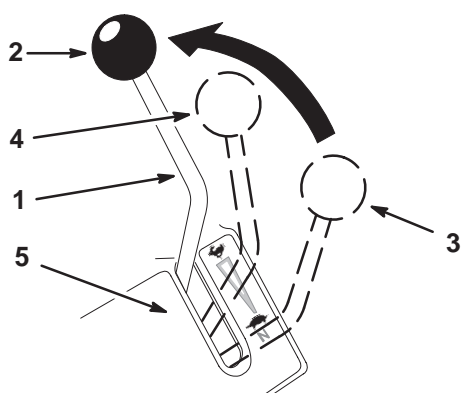

Figure 40
2. Move the speed control lever to the full forward position (Fig. 40).
2. Move the speed control lever to the neutral position (Fig. 40).
4. Place the left neutral lock in the full forward position (Fig. 50) and move the speed control lever to the neutral position (Fig. 40).
1. With the machine on jack stands, place the speed control lever in the neutral position (Fig. 40).